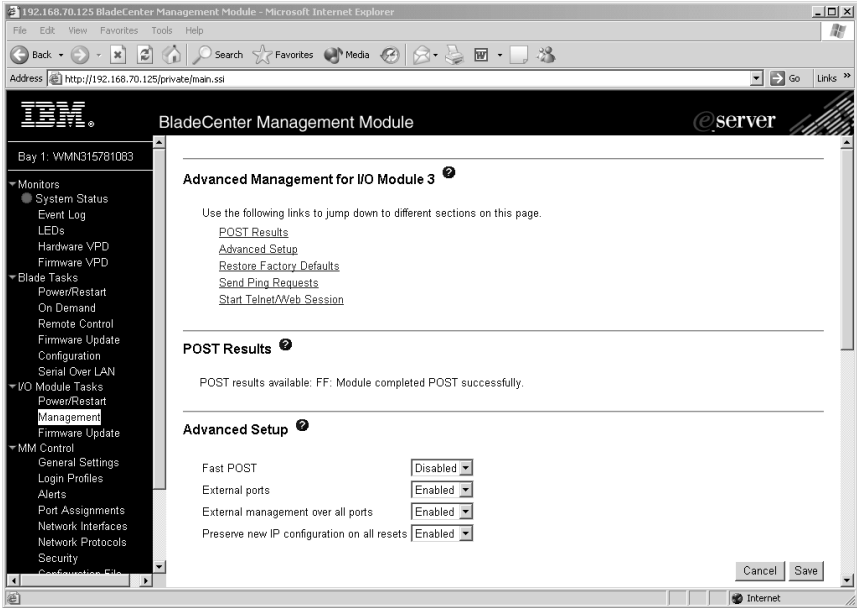

Figure 17. Switch Management window - advanced
7. Scroll down and click **Advanced Switch Management**. A window similar to the one in Figure 17 opens.